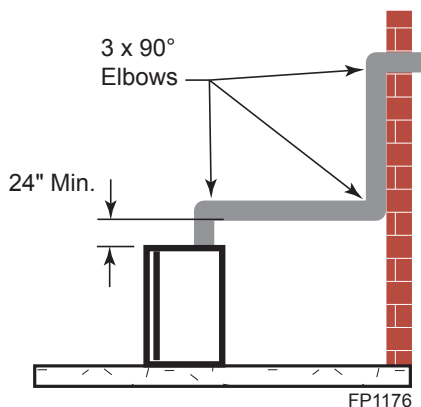

Figure 10 - Maximum Three (3) 90° Elbows Per Installation
- The maximum number of 90° elbows per side wall installation is three (3). *Figure 10*
- If a 90° elbow is used in the horizontal vent run (level height maintained) the horizontal vent length is reduced by 36". Refer to *Figures 10 and 11*. This does not apply if the 90° elbows are used to increase or redirect a vertical rise. *Figure 12*